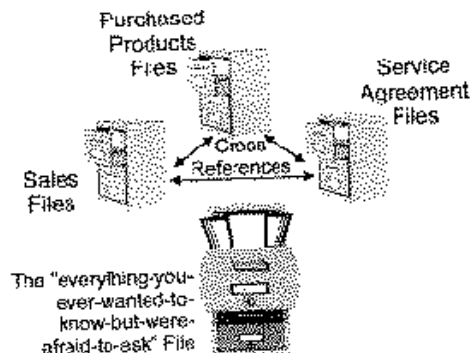

Figure 14 – An Example of Fragmented Manual Stores
- For example, information on a “Customer” could be scattered across “Sales Files,” “Purchased Products Files,” and “Service Agreement Files” as in Figure 14. If a “Customer” sends in a change of address, all three files would need to be updated. The analyst must bring these Data Elements together into a cohesive data grouping (i.e., an Entity) when repartitioning stores.